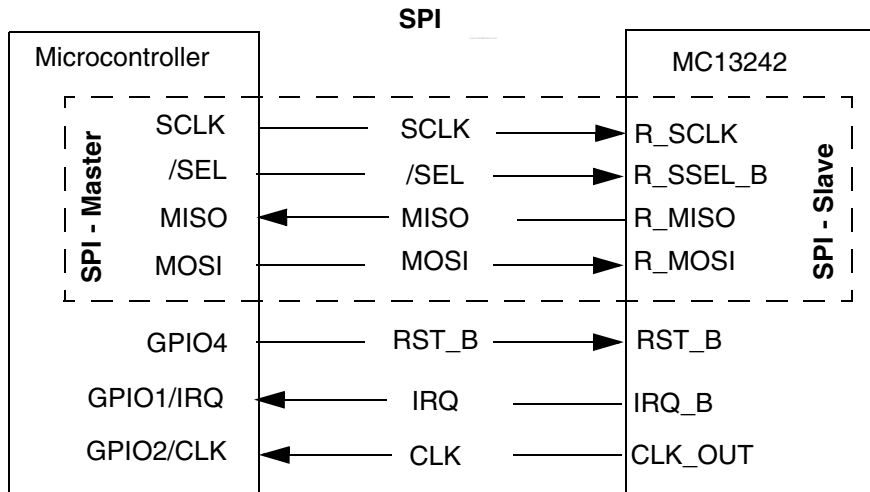

Figure 2. MCU to MC13242 block diagram
Figure 2 shows the interconnection of MC13242 and a generic MCU. The reference manual (RM) will provide more detailed information describing functionality, connections between the radio and MCU, etc.